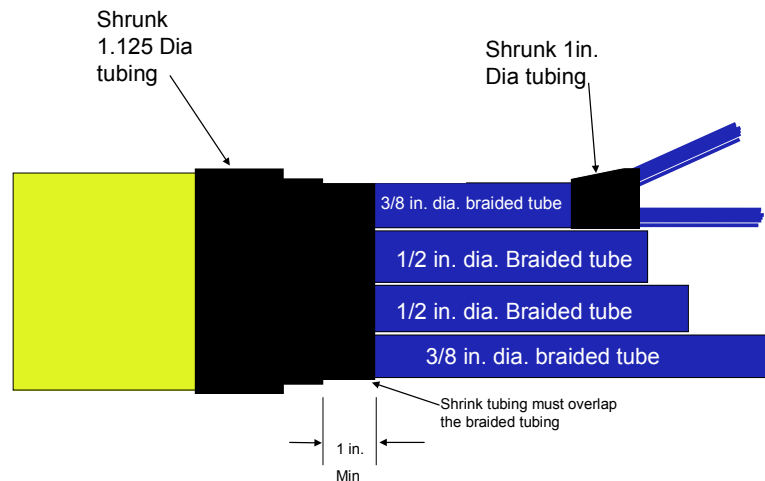

Figure 5
Step 12: Make sure all of the large braided tubes are still inside the center tube as described in Step 3 and the central tube is still clean and dry. Slide the 1.125-inch diameter heat-shrink tubing down over the cable end and shrink the heat-shrink tubing from all sides, working from the center out, until the adhesive starts to show at the ends (Figure 5). Be sure the heat-shrink tubing overlaps the braided tubing about 1 inch.